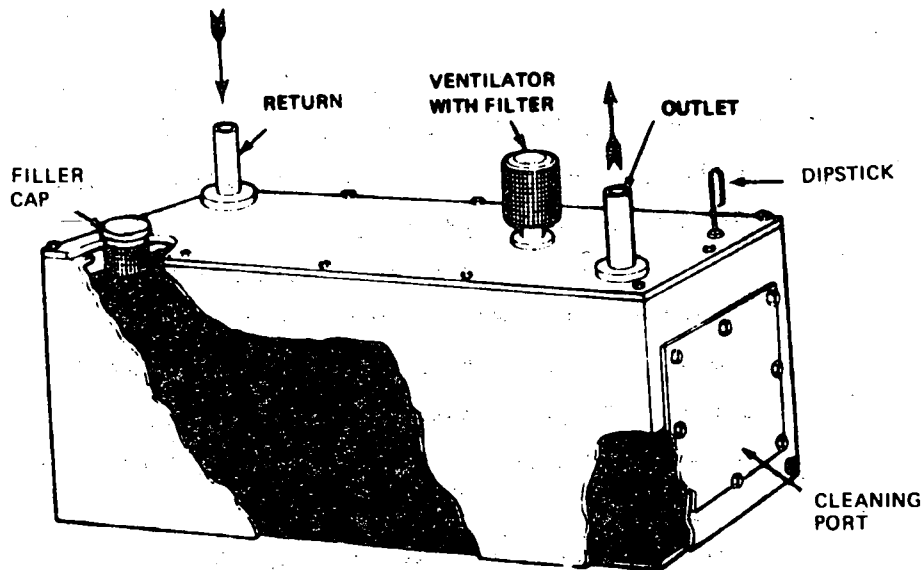

Fig. 1
- *sump* or hydraulic fluid reservoir (Fig. 1).